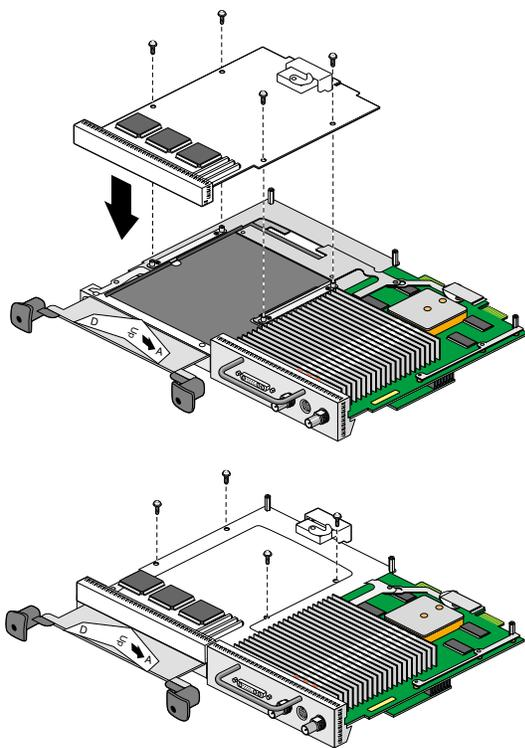

Figure 20 Installing the Screws
2. Install the screws (as shown in Figure 20), tightening the board to the standoffs.